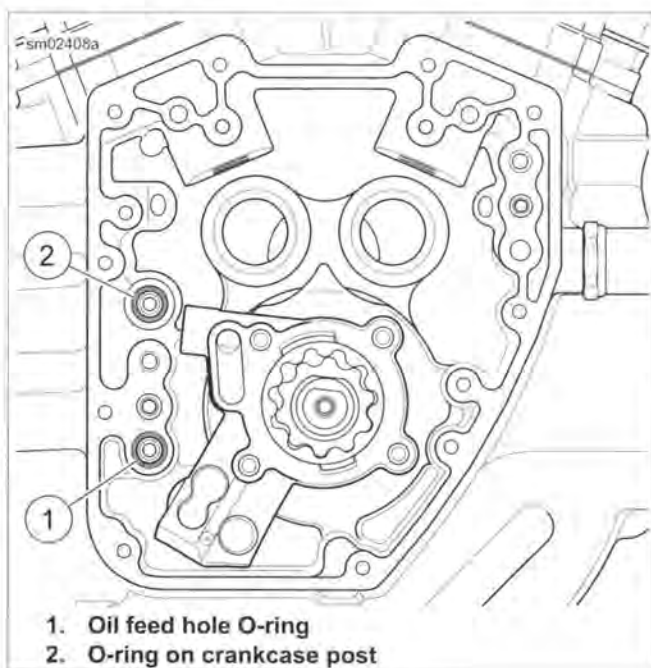

Figure 3-107. Oil Pump O-rings
4. See Figure 3-107. Remove and discard O-rings (1, 2).